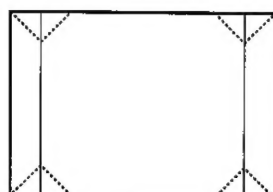

Fig. 5
- Adjust the E-W CORNER to obtain condition as in fig. 5.